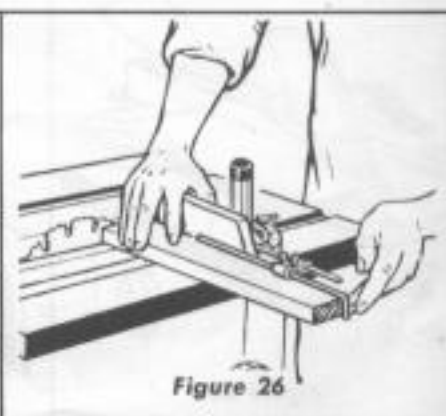

Figure 26
7. If the work overhangs the saw table enough to sag at each end, provide supports the same as in ripping operations. The stop rod on the miter gauge, or a stop block fastened to the extension, is used to fix position of left-hand edge of work for measuring length of piece to be cut off. (See figure 26.)